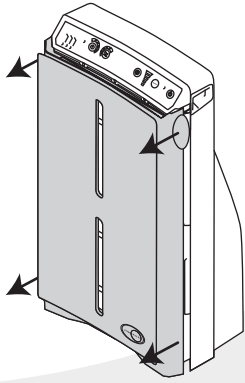

FIG. 32
2. **Remove** the front cover from the Air Purifier using the finger tabs located on each side of the Air Purifier – near the top (Fig. 32). **Steady** the Air Purifier by first placing your thumbs on the outside edges of the control panel. **Remove** the front cover by **gently pulling** on the tabs with your fingers. Then, **pull off** the bottom of the cover.